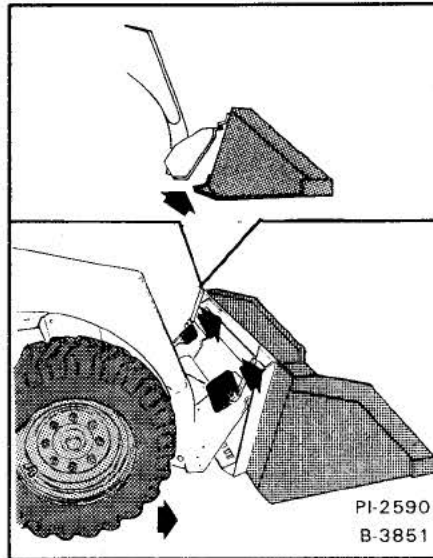

Fig. 25 Installing the Bucket
2. Tilt the Bob-Tach forward. Drive forward to the bucket until the top edge of the Bob-Tach is under the flange of the bucket and centered (Fig. 25). DO NOT damage the Bob-Tach levers.